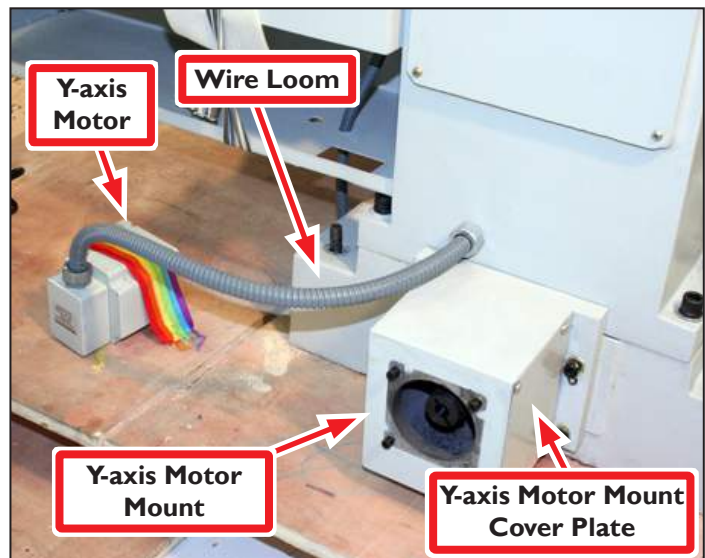

Figure 3.3
The PCNC 1100 is supplied with the Y-axis Motor mechanically disconnected; install it before attempting to remove mill from pallet (see **Figures 3.3** and **3.4**).
1. Unstrap Y-axis Motor from pallet (see **Figure 3.3**).
2. Remove Y-axis Motor Mount Cover Plate from Y-axis Motor Mount (see **Figure 3.3**).
4. Remove four cap head screws from Y-axis Motor Mount (see **Figure 3.3**).
5. Use four cap head screws from step 4 to mount Y-axis Motor onto Y-axis Motor Mount. Wire loom should face toward floor (see **Figure 3.3**). Make sure motor and motor mount faces are flush.